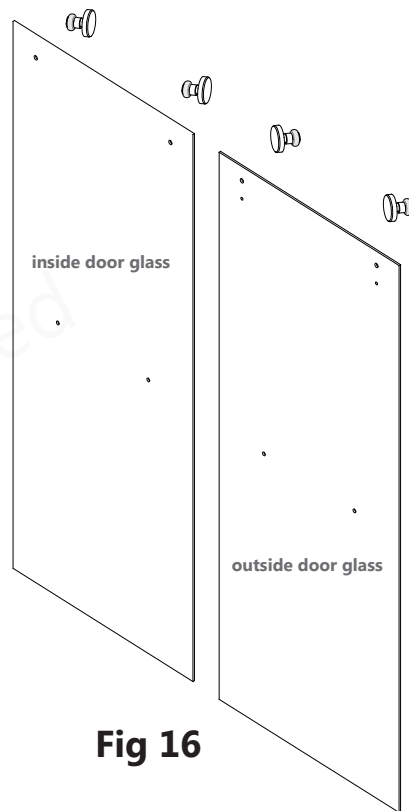

Fig 16
16. Remove the cap and screw from the **Rollers (#04)** and attach the **Rollers (#04)** to the **Inside Door Panel (#13)** and to the **Outside Door Panel (#12)**. (Fig 16 and Fig 17)